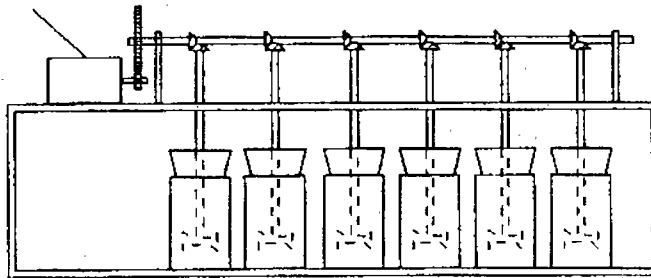

Figure 3. Laboratory stirrer for the jar test
- The jars are immediately placed in a stirrer with paddles, as shown in Figure 3.